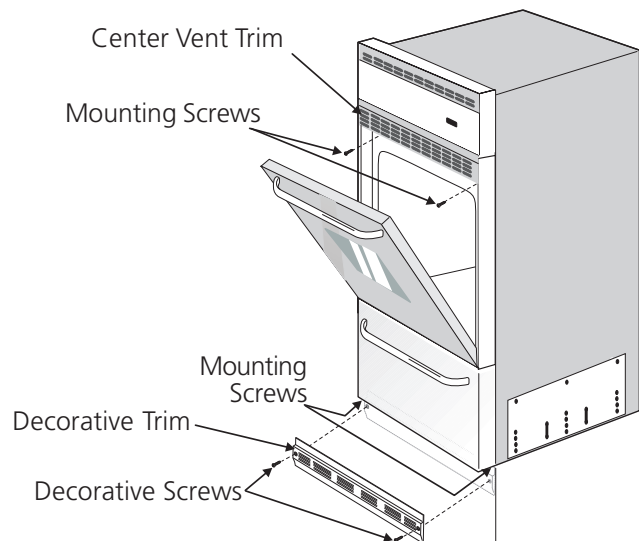

Figure 6
To fasten the appliance to the cabinet (figure 6):
2. **Optional:** Install the decorative trim under the appliance (as shown on figure 6) using the 2 decorative screws supplied with the appliance.